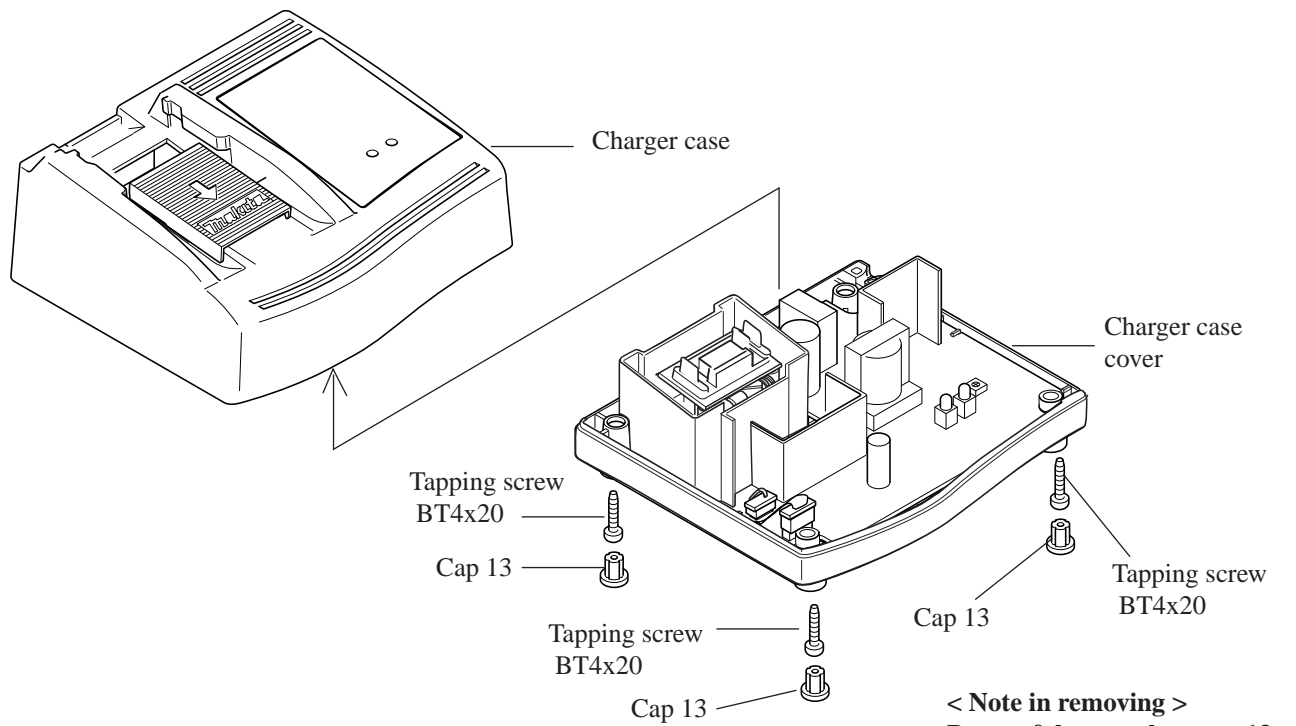

Fig. 1
Charger case can be removed from charger case cover by unscrewing 4 pcs. of tapping screws BT 4x20. See Fig. 1.
- ( 1 ) Remove charger case as illustrated in Fig. 1 at page 3.